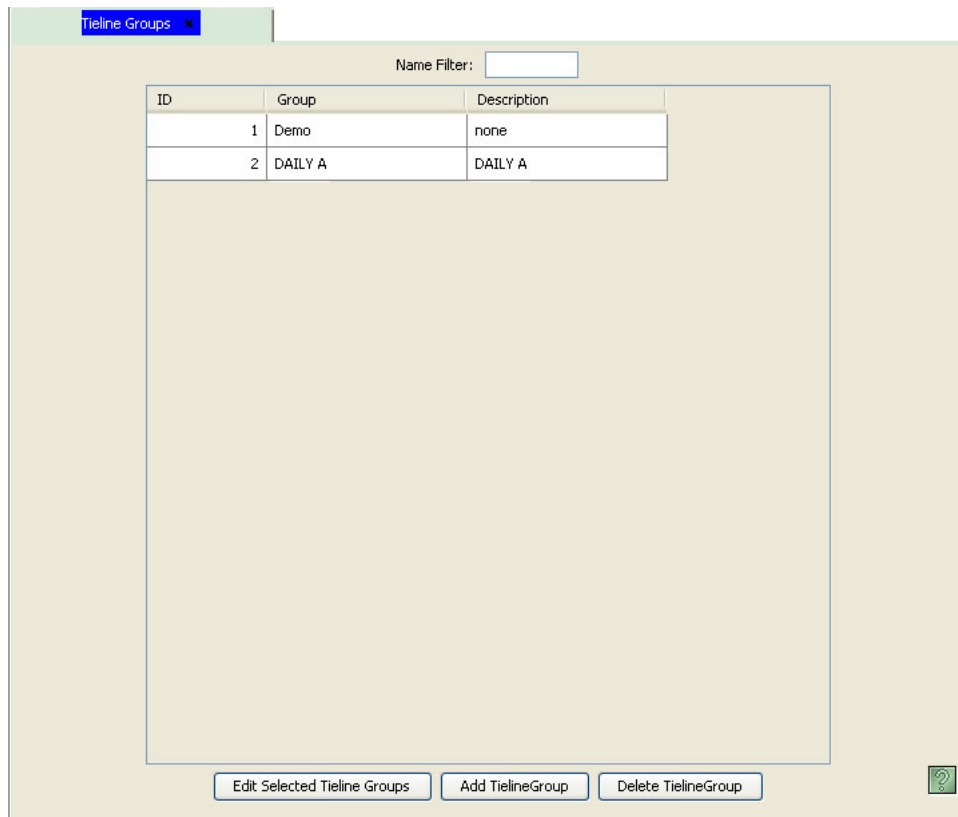

Figure 16-27. Tieline Group Page
- 2 From the Navigation area, select the ‘Configuration’ pane and then ‘Tieline Groups’. The ‘Tieline Groups’ page displays, as shown in Figure 16-27. All tieline groups currently defined in the system are listed.